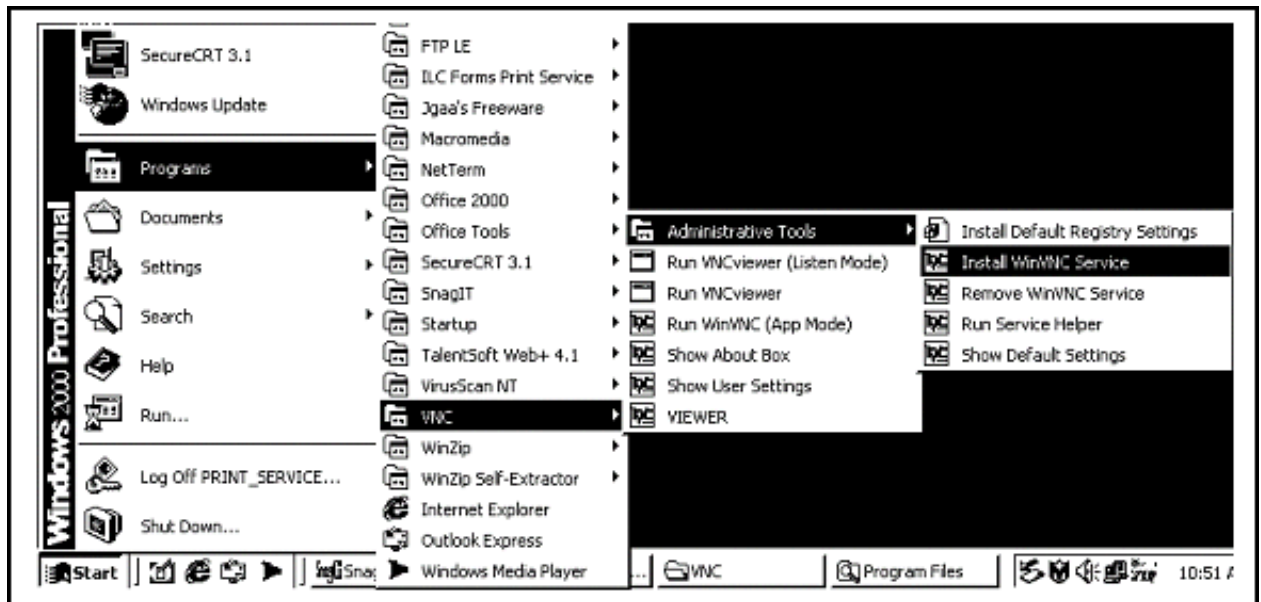

Figure 6-12: Installing VNC As a Service
When the system reboots, you will need to install VNC as a service. This means that VNC will automatically be running in the background whenever the print server is restarted, and it will always be ready to receive outside requests for its remote control functions (Figure 6-12). Before installing this service, make sure that you are logged on as PRINTSERVICE.
1. Click the Start button (Figure 6-12).